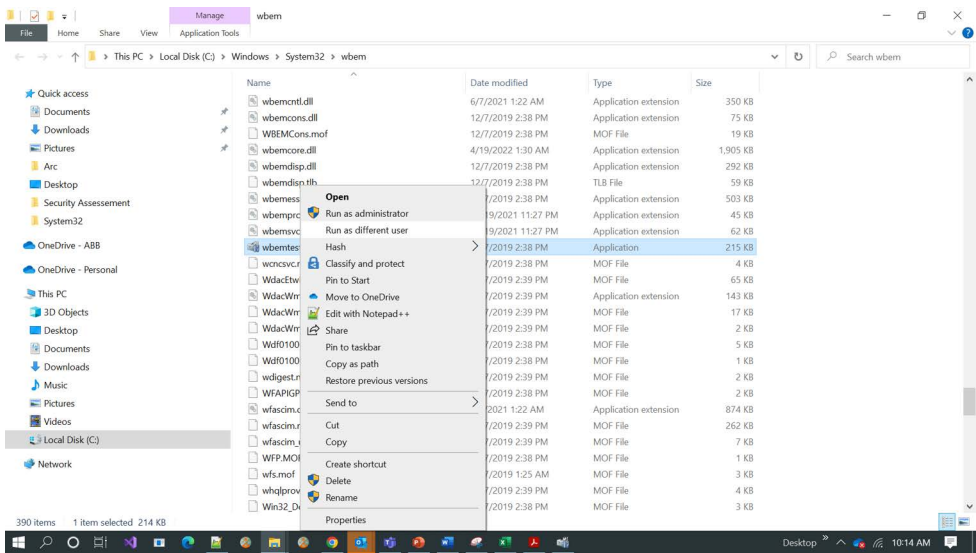

Figure 257. System32 Folder
- 1. In MCS-DC launch node, Go to the system32 folder and select wbmtest.exe application. Hold Shift and Right-click, which brings up the "Run as different user" as shown in Figure 257.